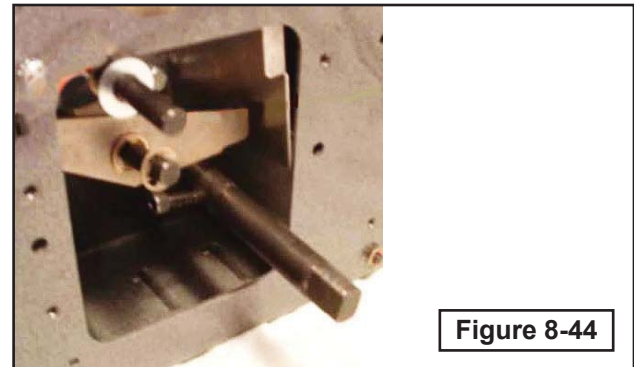

Figure 8-44
8. Remove feed wheel shaft and feed wheel from chassis at a downward angle (Figure 8-44).